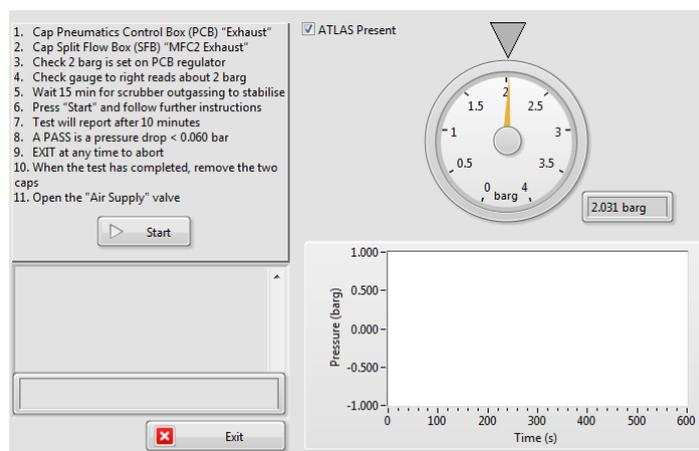

Figure 13. How to run a pressure test on the LNS system.
5.3.4 The LNS will display the screen shown on Figure 13, which provides the guidelines needed to complete the pressure test (these will be explained below).